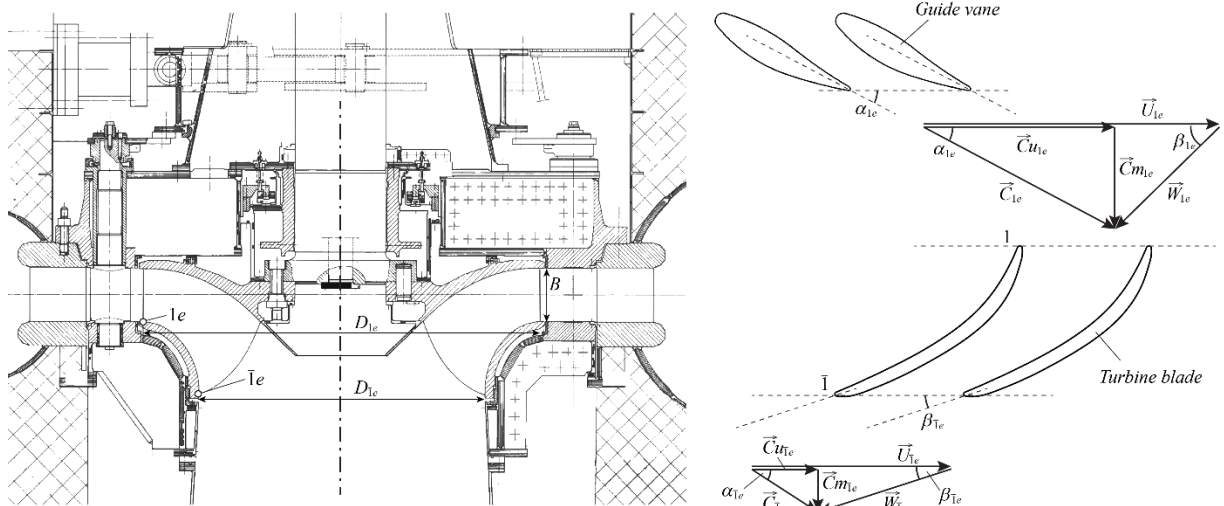

Figure 1. Scheme of the hydropower plant with its characteristics.
The meridional view of a Francis turbine and one example of the velocity triangle are sketched in Figure 1. For a Francis turbine, the angle of the absolute flow velocity at the inlet α_{1e} corresponds to the guide vane opening degree, and the angle of the relative flow velocity at the outlet corresponds to the outlet blade angle β_{1e} , as shown in Figure 1. Referring to the figure, answer the following questions.
- 3) Give the meridional components of the flow velocity $C_{m_{1e}}$ and $C_{m_{1e}}$ as a function of the discharge Q and the volumetric efficiency η_v by using the variable defined in Figure 1.